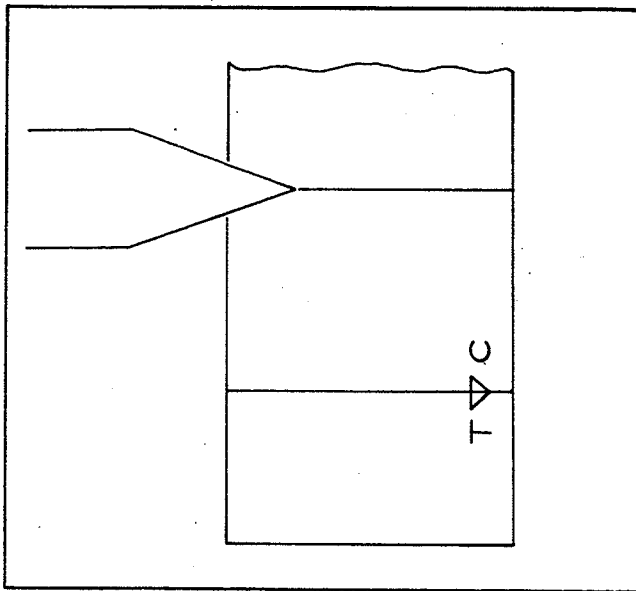
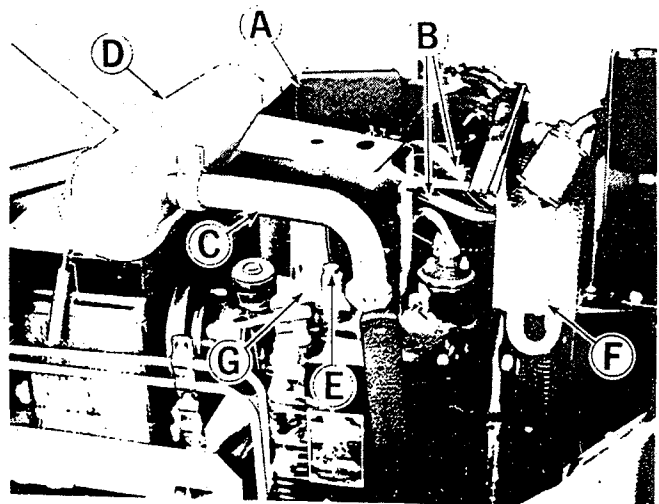

Figure 31. Timing marks.
Figure 38. Engine from left side of tractor.
4. Check timing arrow and marks. If arrow is not aligned as seen on figure 31, adjust timing using the following procedure.
7. Turn engine over slowly in direction of crankshaft rotation until timing marks and arrow aligned as seen in figure 31.
1. See figure 38. Remove ignition key to prevent accidental start.
2. Remove four capscrews mounting heat shield (A). Remove heat shield from engine.
3. Disconnect fuel line hoses (B) at carburetor and fuel pump.
5. Remove three capscrews mounting exhaust manifold (C) to intake manifold (G). (One capscrew removed at heat shield removal). Remove exhaust manifold and muffler (D).
6. Remove two capscrews (E) mounting each side of intake manifold (G) to block. Remove intake manifold exposing valve tappet covers.
9. Remove capscrew and flat washer attaching left side of transmission oil cooler (F). Lift left end of oil cooler back being careful not to break hose connections.
10. Manually turn engine flywheel clockwise until intake valve opens and closes. Continue turning flywheel until arrow mounted on camshaft on left side of engine is aligned with mark on electric clutch (figure 31). This should place left hand piston at the top of its compression stroke, which